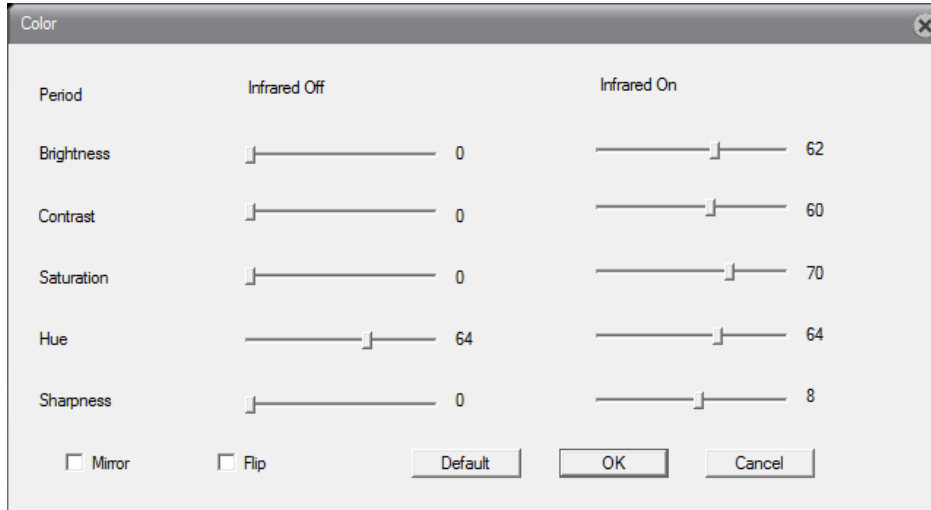

Figure 4.6
- c. Image Color: Set the camera-side preview screen display, as shown in Figure 4.6.